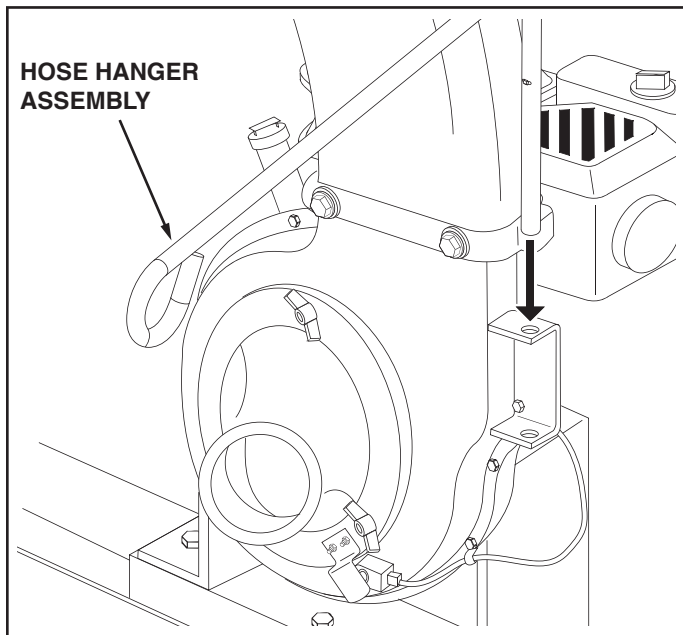

FIGURE 7
13. Place the hose hanger rod assembly down into the hose hanger bracket on the impeller housing assembly. See figure 7.